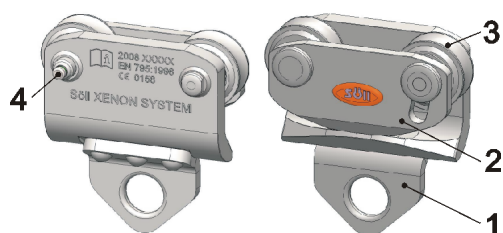

Fig. 3.8 - Components of the overhead roller shuttle
Fig. 3.8 shows the main components of the roller shuttle. To fix the shuttle, hook the carabiner of the lanyard into the anchoring eye (1) of the overhead roller shuttle, similarly to the standard shuttle.